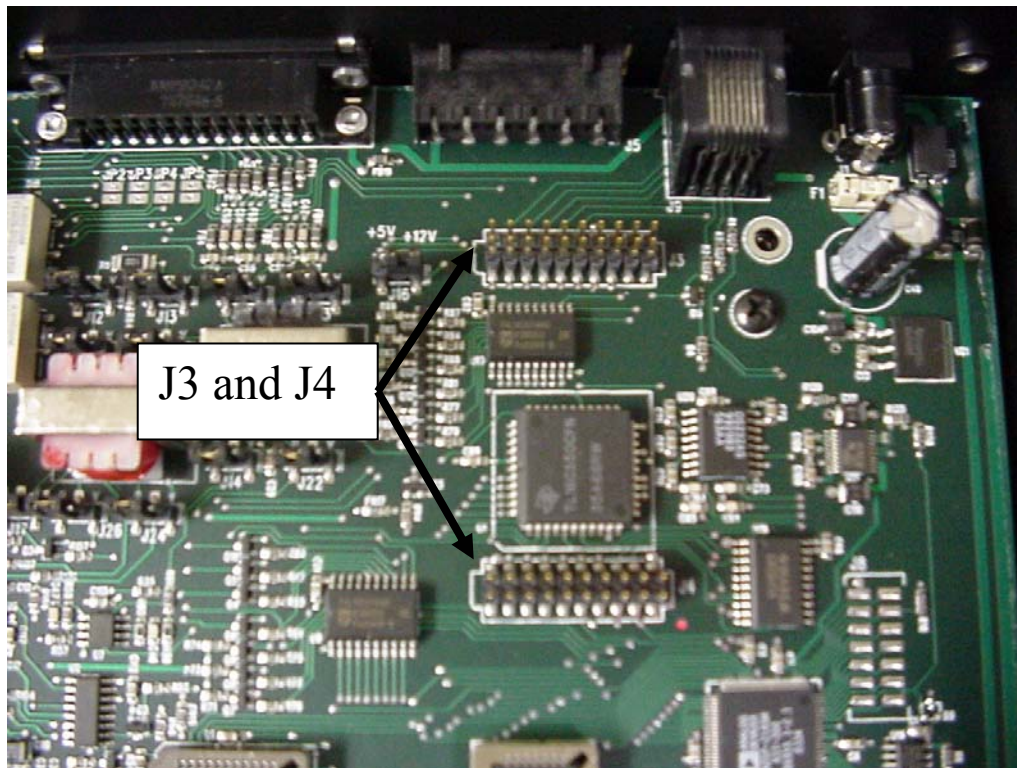

Figure 1 – Serial Adaptor PCB Location
2. Align the Serial Adaptor PCB (from kit 1100-30964-402) over J3 and J4 of the DSP223 main board. See Figure 1.